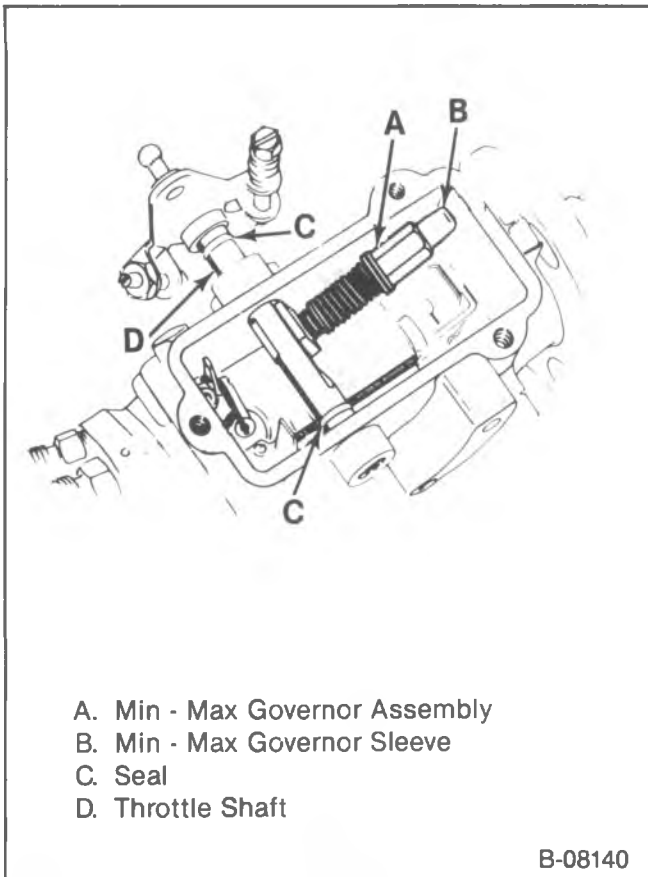

Figure 21—Injection Pump Cover Removed
↔ Remove or Disconnect (Figure 21)
Install or Connect (Figure 21)
12. Min - max governor assembly (figure 21).
- Rotate the min - max governor assembly downward (figure 21).